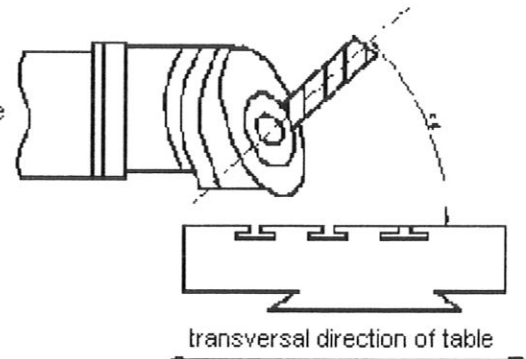

Fig.36
10.2.2.2 Case while the front end face of the spindle is crossed with its rear end face(see fig.36):